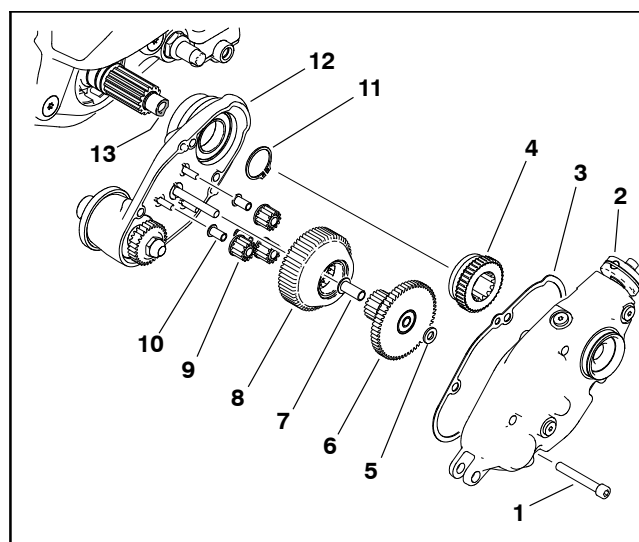

Figure 4
The gear box assemblies for cutting units with 5 in. reels and 7 in. reels are very similar. The gear box for cutting units with 7 in. reels have two (2) additional idler gear assemblies (Fig. 4).